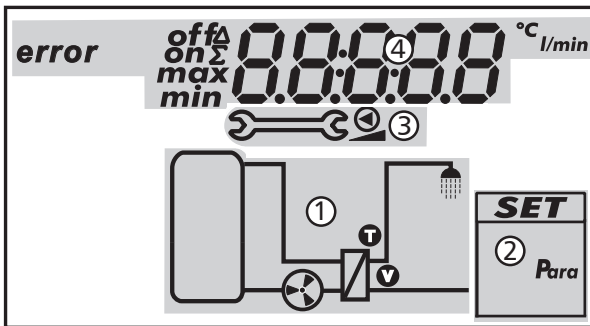

Fig. 8: Overview of the display areas (all elements visible)
The following table describes the symbols used in Fig. 8.
The settings menu (② in Fig. 8) contains the entry *Para* (parameter).
The display of the operational and setting values (④ in Fig. 8) consists of the following elements:
①	Error display
②	Additional information: on, off: Switching state/condition on , off max, min: Maximum value, minimum value Σ: Summed operational value since first commissioning, cannot be reset Δ: Summed operational value since last reset to 0
③	Display of: <ul style="list-style-type: none"> • Measurements • Settings • Error codes • Additional information, e.g. software version
④	Physical unit of the value displayed in ③: °C, l/min